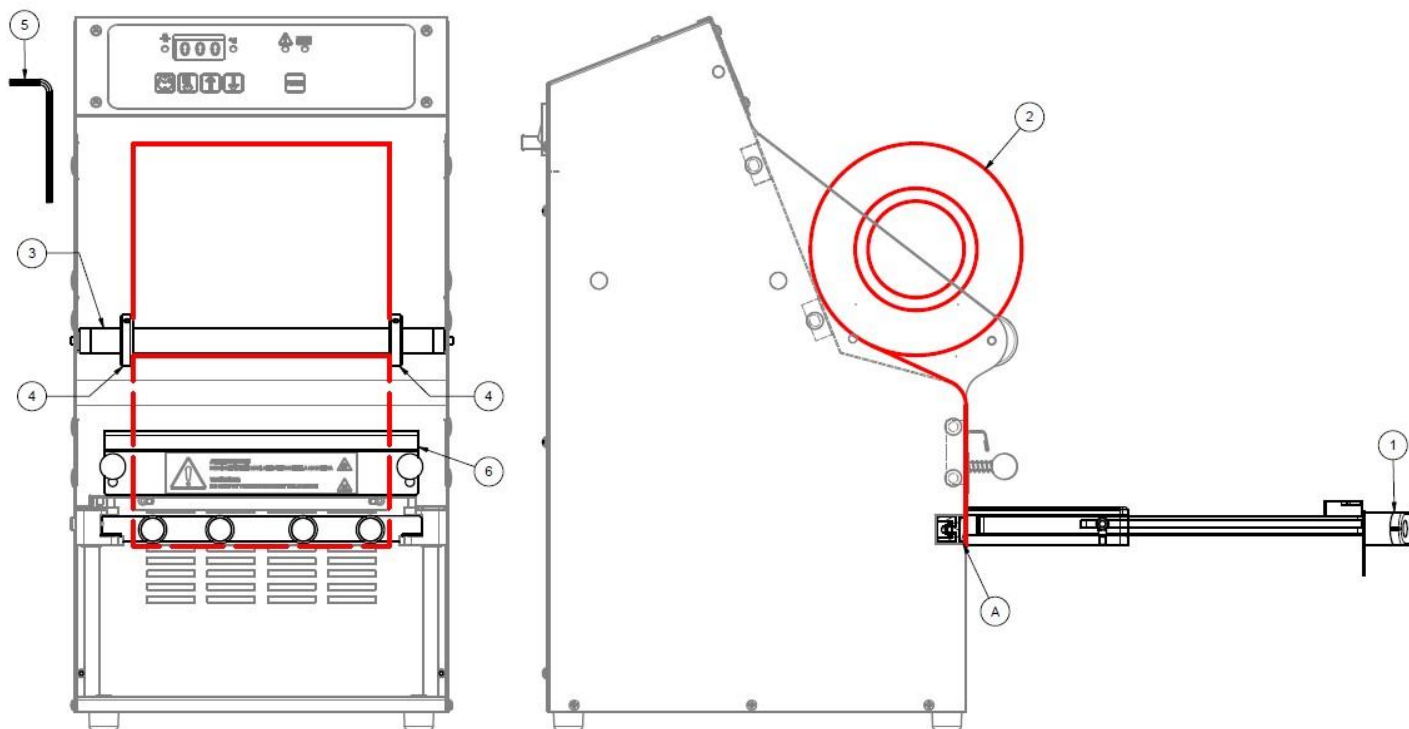

Fig. 7
When positioning the film reel, the power supply should be disconnected and the trayholder pulled out (pos.1 Fig. 7). Position the film reel (pos.2 Fig. 7) onto the roller (pos.3 Fig. 7) and centre it by means of the corresponding centering rings (pos.4 Fig. 7) (lock the rings using the 3mm hexagonal wrench (pos.5 Fig. 7)).
The film should be inserted under the film presser (pos. 6 Fig. 7) and positioned at the height of the lower profile of the magnets (pos. A Fig. 7).